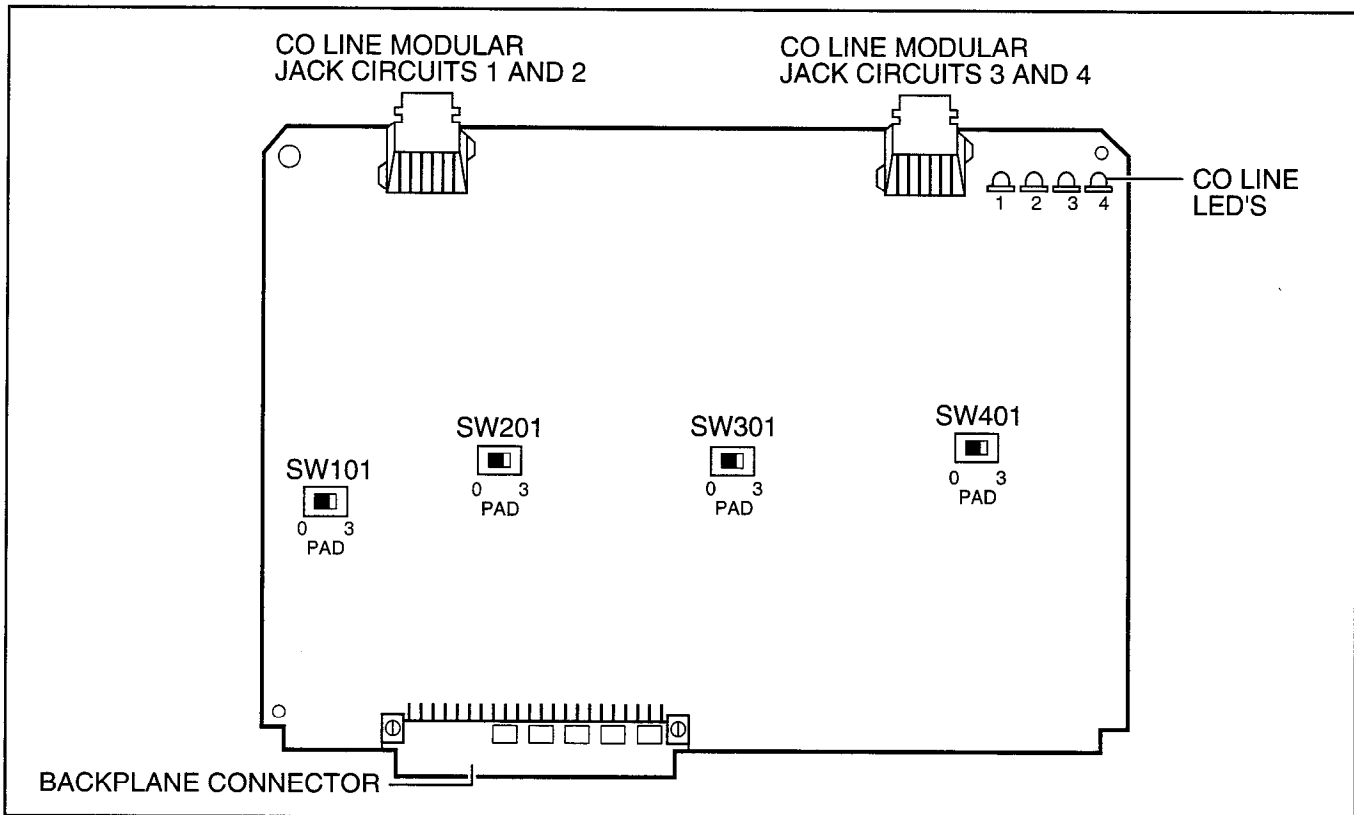

FIGURE 5-17
11.02 PCOU controls, indicators, and interface connectors are shown in Figure 5-17 and described in Table 5-E.